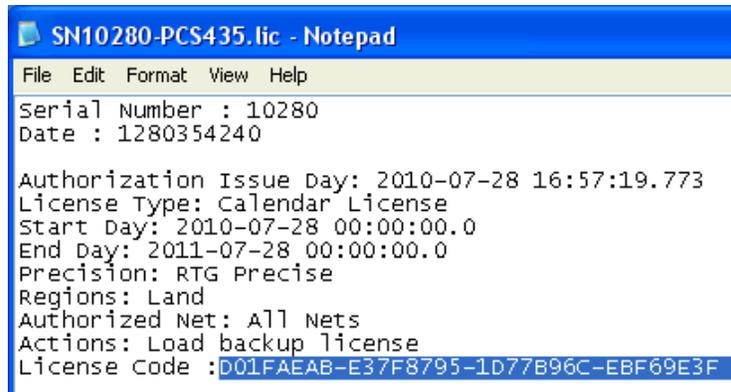

Figure 108: StarFire License Example
3. Browse to *NavCom\StarFire License* on the PC. Select the StarFire license file. The StarFire license file extension is \*.lic. Figure 108 displays the contents of a typical StarFire license file.
1. Locate the StarFire .lic file in the root directory on the USB flash drive supplied with the unit, open that file in Notepad, and copy the license code (see Figure 108).